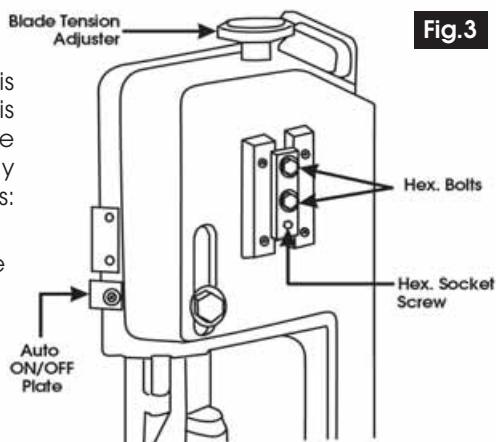

Fig.3
2. Slacken the two Hex socket head bolts, shown in Fig.3 by one turn.
If the blade tends to climb the lip on the back edge of the pulley wheel, a harsh scraping sound will become apparent. Should this occur, the hex. socket screw shown in Fig.3 should be turned **ANTICLOCKWISE**, until the blade runs centrally on the pulley. Should the blade tend to run **OFF** the pulley, turn the hex. socket screw **CLOCKWISE**.
The saw automatically shuts off at the end of the cut. The point at which this occurs is effected by moving the plate shown in Fig.3 so that it makes contact with the OFF switch sooner or later as required.